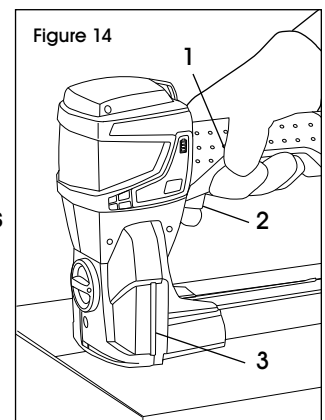

Figure 14
2. Pull the safety latch (1). (See Figure 14)
3. Actuate the trigger (2).
**NOTE:** Position of tool status indicator (3) on both sides of stapler is equal to the stapling line (position).